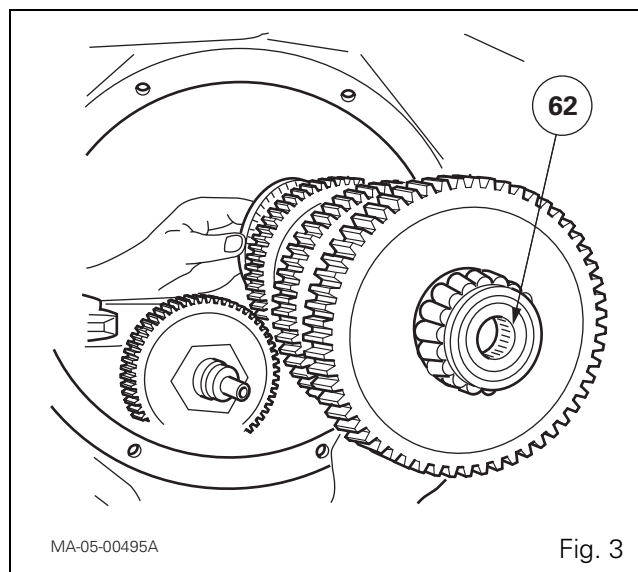

Fig. 3
7. Take the shaft and gear assembly out through the front of the housing (Fig. 3), by tilting it so that the gears are released from the lower shafts.
IMPORTANT: When removing the shaft, do not insert the handling bar in the bore as this will damage the needle roller bearing (62) (Fig. 3). If necessary, carry out the operation with the help of an assistant.